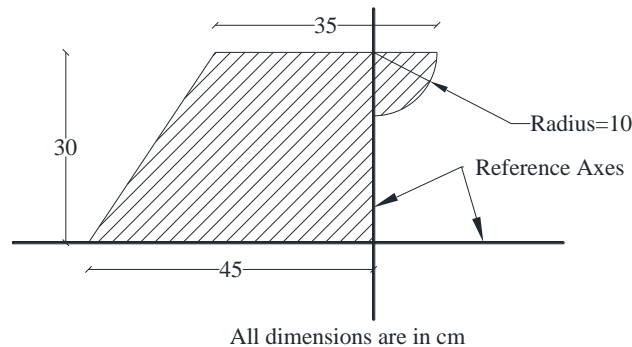

Figure-4
- (c) Locate the centroid from the given reference axes of the lamina shown in **Figure-4**. **07**
- (c) Calculate the moment of inertia of the section about the horizontal axis passing through the base. Refer **Figure-4**. **07**